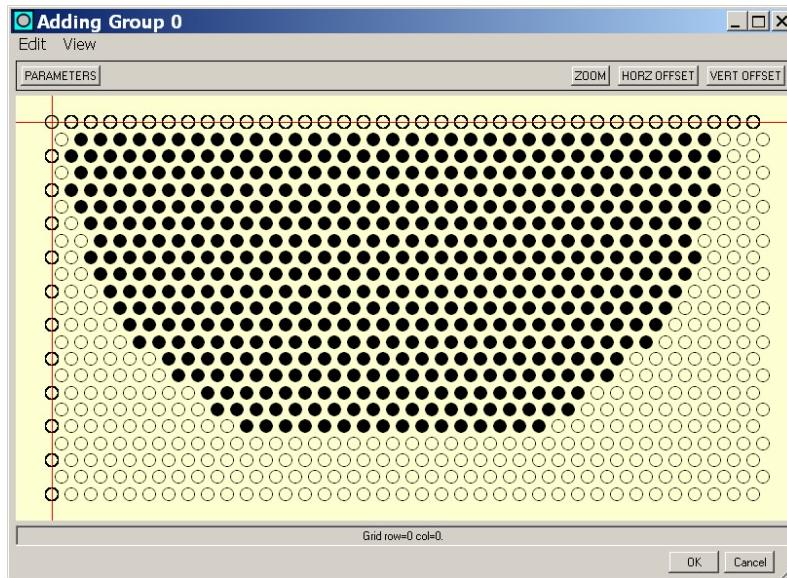

Figure 62. Adding Group Dialog - Section 1
- STEP 10 :** The *Adding Group* dialog should now look like the one shown in Figure 62. Click **OK** on the *Adding Group* dialog. *MakeComp* returns to the main screen and displays only the enabled tubes on the building grid.